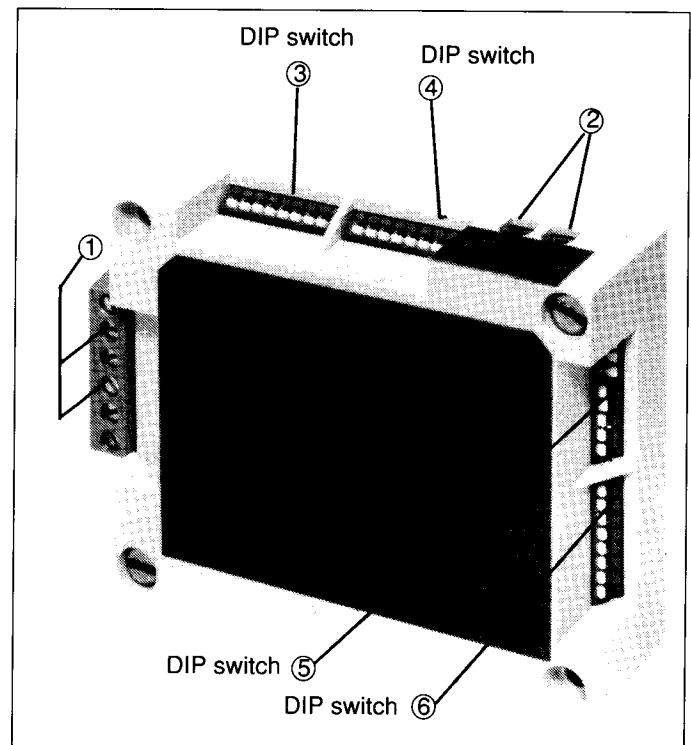

Fig. 6 IQ500M Special Function Module
The module has four eight-position DIP switches (DIP 3 through DIP 6 — Refer to Figure 6), two Form C relay outputs^①, and two LEDs^②. Program the IQ500M module before it is attached to an IQ-500 device. The DIP switches are shipped with all switches in the OFF condition, which is with the lever away from the position numbers. To turn a switch to the ON condition slide the lever toward the position number. Be sure that Position 8 of DIP switch 5 is OFF. If Position 8 is ON, all other settings on the IQ500M module are changed to work as load control.